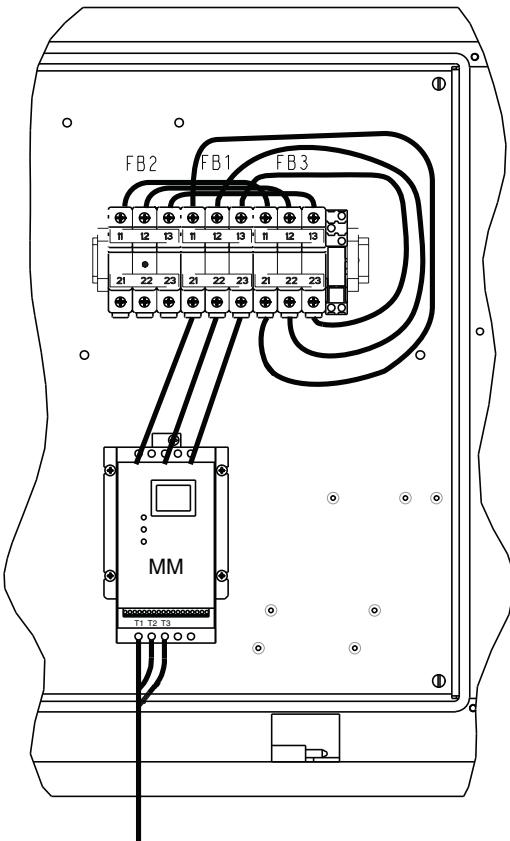

Fig. 13 — Motormaster V Installation Location — 38APD, S040-060 Units
3. Mount Motormaster V controller (Item 25) in location where FC1 was mounted, using 4 AL80AU170 screws (Item 9) provided. See Fig. 13.